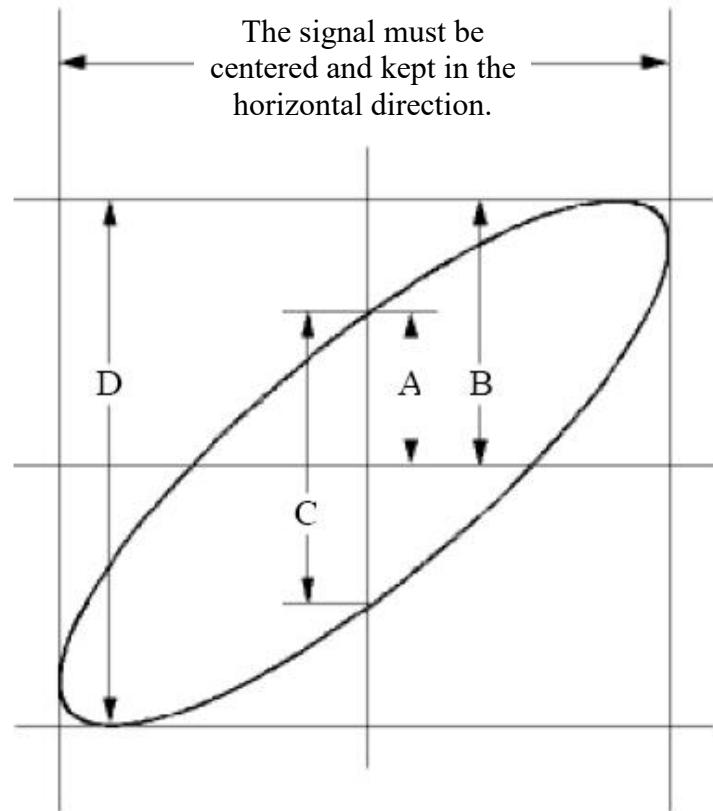

Figure 6-6 Lissajous Graph
- (1) Set the probe menu attenuation coefficient for **10X** and that of the switch in the probe for **10X** (see "*How to Set the Probe Attenuation Coefficient*" on P10).
- (2) Connect the probe of channel 1 to the input of the network and that of Channel 2 to the output of the network.
- (3) Push the **Autoset** button, with the oscilloscope turning on the signals of the two channels and displaying them in the screen.
- (4) Turn the **Vertical Scale** knob, making the amplitudes of two signals equal in the rough.
- (5) Push the **Acquire** button to display the right menu.
- (6) In the right menu, select **XY Mode** as **ON**. The oscilloscope will display the input and terminal characteristics of the network in the Lissajous graph form.
- (7) Turn the **Vertical Scale** and **Vertical Position** knobs, optimizing the waveform.
- (8) With the elliptical oscillogram method adopted, observe and calculate the phase difference (see *Figure 6-6*).